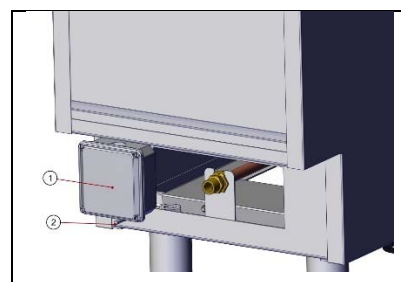

Fig. 4.
- Locate the terminal box at the back of the device (See Fig. 4. – Mark.1) and the equipotential bounding terminal (See Fig. 5. – Mark. 2)